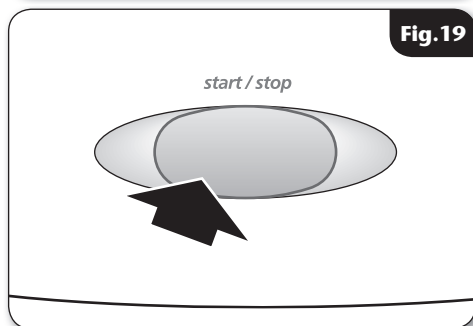

Fig.19
- Press the **START/STOP** button (**fig.19**) and wait until water starts to flow from the flexible hose.